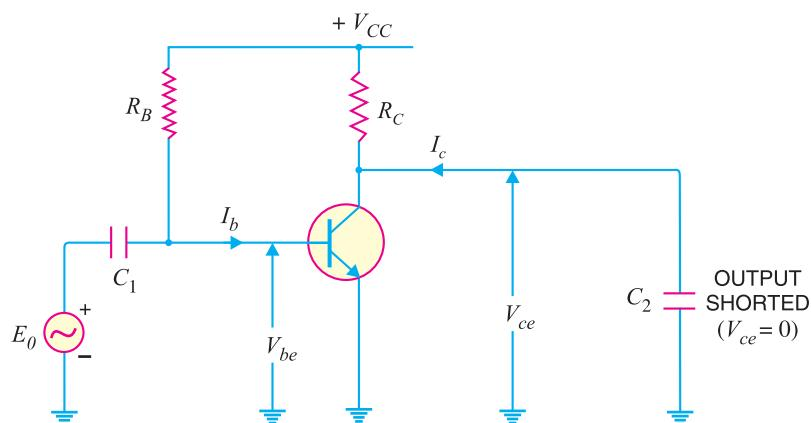

Fig. 24.15 (i)
**(i) Determination of  $h_{fe}$  and  $h_{ie}$ .** In order to determine these parameters, the output is a.c. short circuited as shown in Fig. 24.15 (i). This is accomplished by making the capacitance of  $C_2$  deliberately large. The result is that changing component of collector current flows through  $C_2$  instead of  $R_C$  and a.c. voltage developed across  $C_2$  is zero i.e.  $*V_{ce} = 0$ .